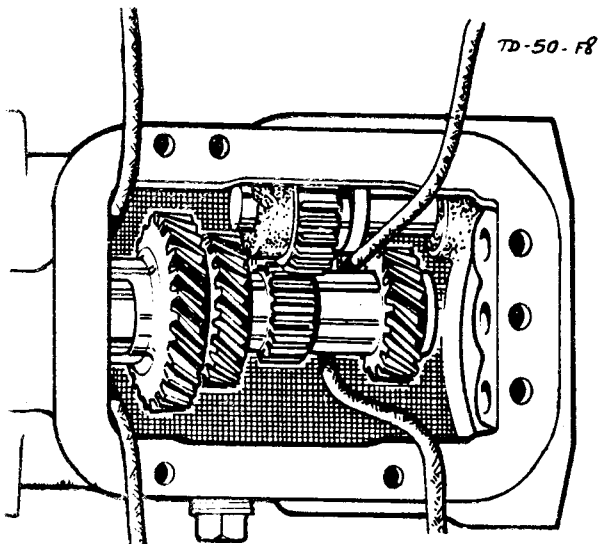

Fig. 8. FITTING COUNTERSHAFT
21. Position the countershaft gear in the bottom of the gearbox casing, taking care not to displace the thrust washers. A piece of string fitted under either end of the countershaft gear at this stage will facilitate assembly later. See Fig.8.